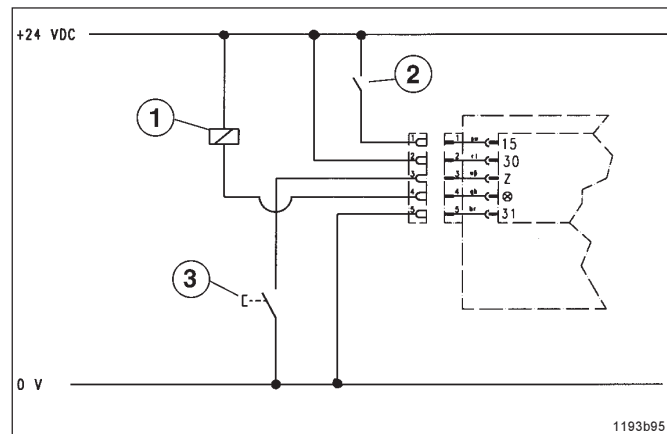
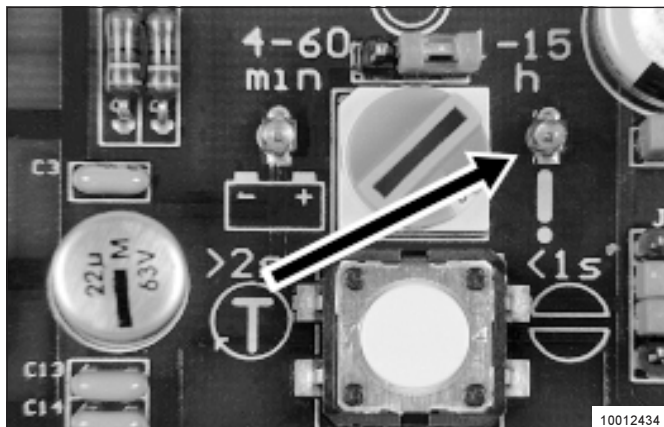

Fig. 1 - Supply voltage and machine contact
Fig. 11- LED display for the monitoring time or fault indication
- Indication of the time of availability: external relay 1 (Fig.1) has picked up, LED (Fig.11) is lit.
- The central lubrication system is monitored, i.e. the readiness for service and faults are indicated (**industrial applications** : **permanent signal, see LED fig.11**).
Readiness for service O.K. (there is no fault)	Is picked up LED (Fig. 11) is lit permanently
- The machine contact (external contact) is used for the activation as a function of auxiliary units or drives, etc.. See Fig. 1.
- The LED (Fig. 11) is lit.
The LED (Fig. 11) is **extinguished** and the **pump stops operating**.